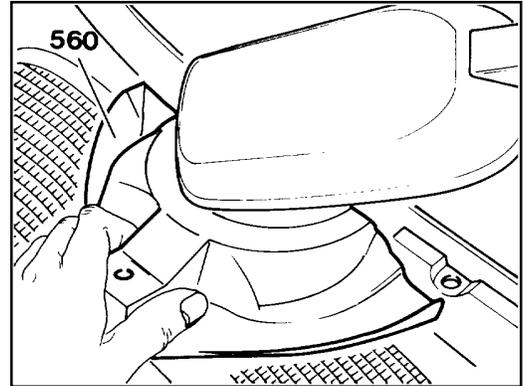

Figure 5
Cover (560)from, attach (figure 5).